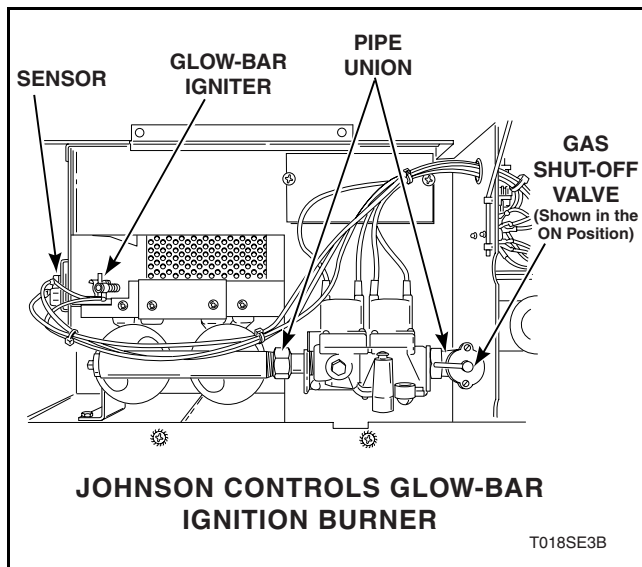

Figure 21
- b. Close gas shut-off valve. Refer to *Figure 21*.
- Disconnect wires from sensor. Refer to *Figures 21 or 22*.